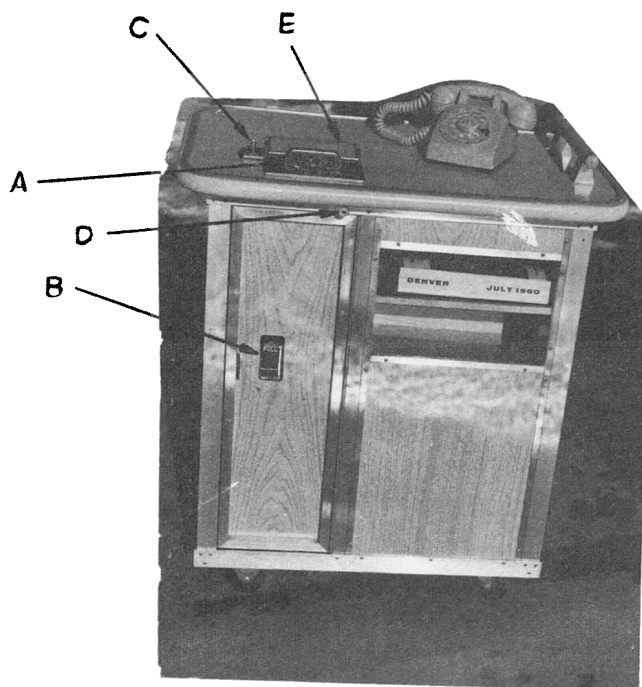

FIGURE 1
1.03 The cabinet, illustrated in Figure 1, has a frame of extruded aluminum, and side and top panels of gray laminated plastic. The wheels are equipped with heavy-duty ball bearings for easy rolling.